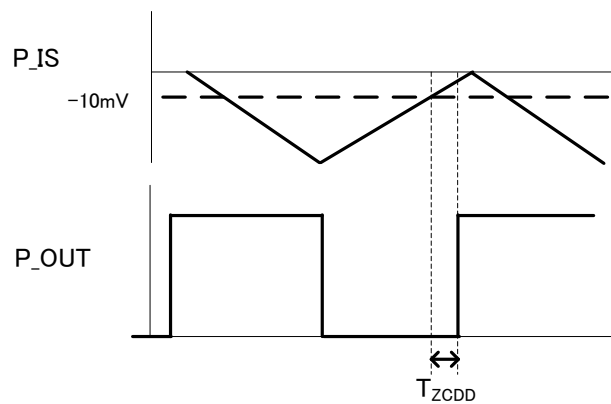

Figure 32. P\_IS Zero Current Detection Delay Time
Zero current detection circuit is used to sense the zero crossing of Inductor current (IL). P\_OUT output is set to be low after zero detection delay because P\_IS voltage becomes more than zero current detection voltage. The over-current detection of an inductor current is set to be  $V_{th}=-0.6V$  (typ) of P\_IS voltage. To remove switching noise, we recommend additional CR filter in P\_IS pin. The operation is shown is Figure 32.